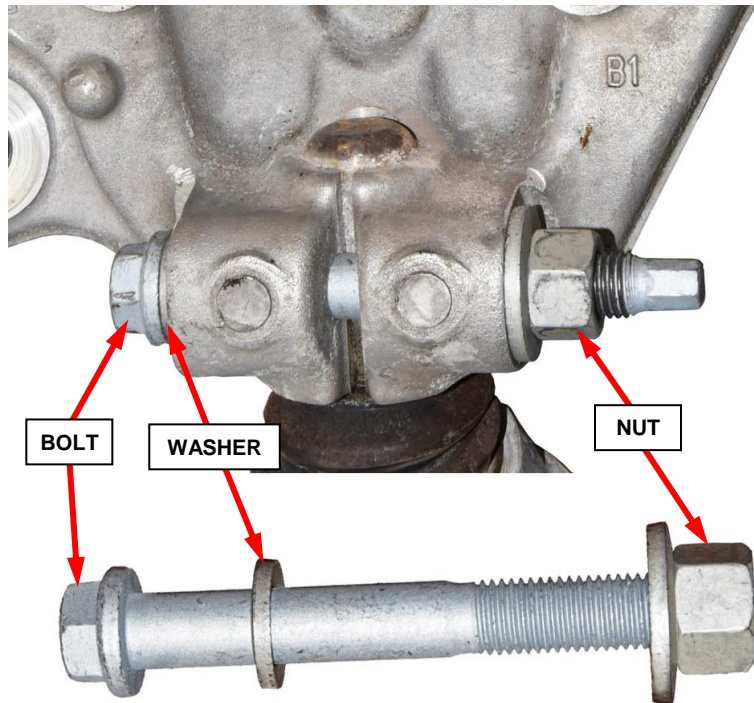

Figure 17 – NEW Pinch Bolt, Washer and Nut Installation into Steering Knuckle
33. Install the NEW ball joint stud pinch bolt, washer, and nut as shown in (Figure 17).